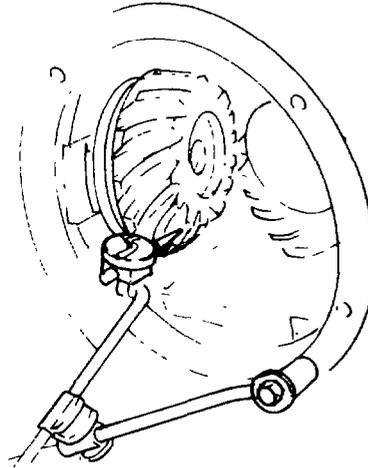

Fig. 328 — Checking Backlash
- b. Using a dial indicator mounted on the carrier housing, check the backlash between the bevel pinion and the helical pinion shaft as shown in fig. 328. If necessary add or subtract shims to obtain a backlash of 0.152 – 0.432 mm (0.006 – 0.017 in.).